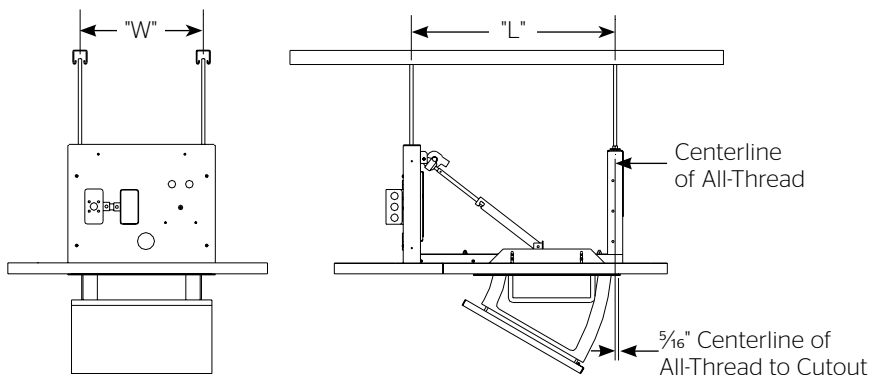

Figure 3
5. Secure the projector and mount to the Da-Lift. Use the features shown to adjust the projector's position. See Figure 3 and 7. Projector lens should not protrude past all-thread centerline.
6. Determine where the projector will be located and make a hole in the ceiling and create a tile for the Da-Lift. See Figure 3 & 8.